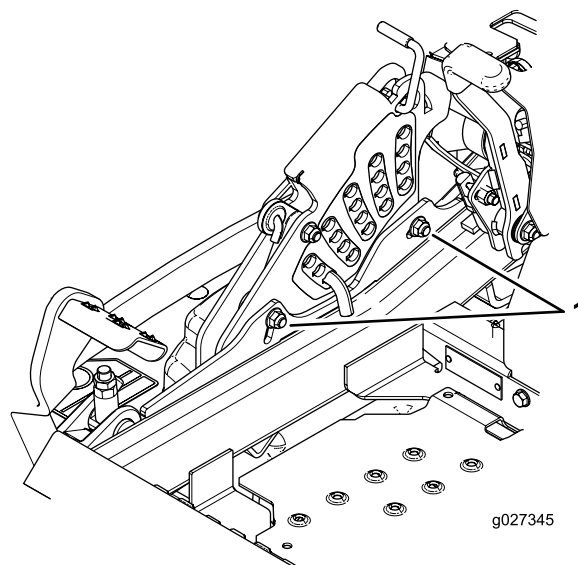

Figure 95
12. To adjust the single point system, loosen the two bolts at the bottom of the height of cut plate. Refer to Figure 95.
14. Tighten the two bolts at the bottom of the height of cut plate (Figure 95). Torque to 37-45 N-m (27-33 ft-lb).